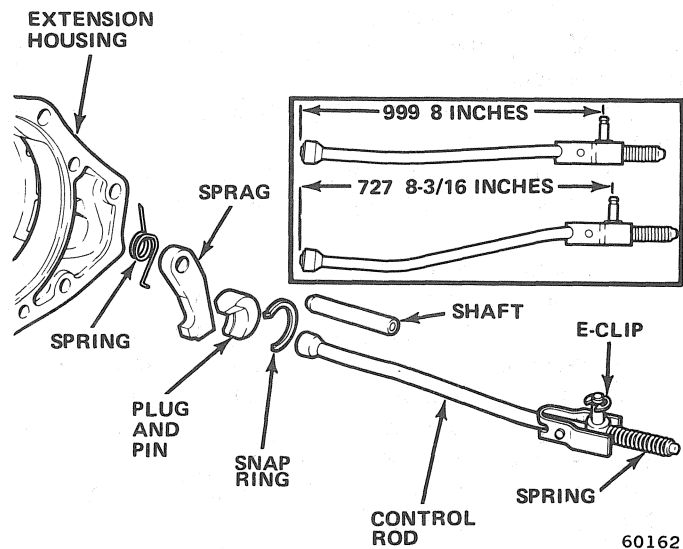

Fig. 2C-28 Park Lock Components
- (1) Install reaction plug and pin assembly in housing and install snap ring (fig. 2C-28).